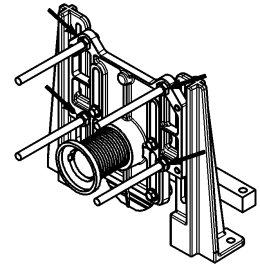

Figure 11c
- For ZN1201 & Z1201-XH/XB, see **Figure 11c**.